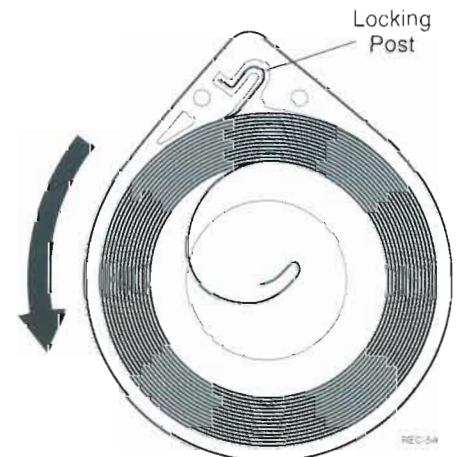

Figure 4.7 Cassette Type Spring Installation
STEP 1. Working from the locking post toward the center of the cassette, install the spring in a counterclockwise direction (Figure 4.7).